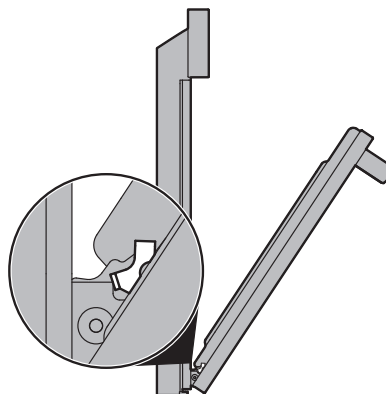

Figure 26: Removal position
3. Grasp the door by the sides, and close the door until the door frame makes contact with the unlocked hinges (Figure 26).
2. Hold the oven door at the same angle as the removal position (Figure 26). Carefully insert the hinge levers into the oven frame until you feel the hinge levers are seated into the hinge notches. The hinge arms must be fully seated into the hinge notches before the oven door can be fully opened.